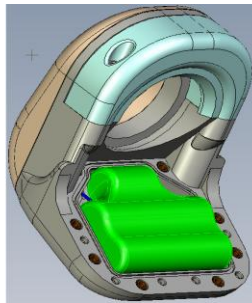

Figure 5: SecurNozzle with battery in place
Step 2: Place the battery into the SecurNozzle as indicated in Figure 5.